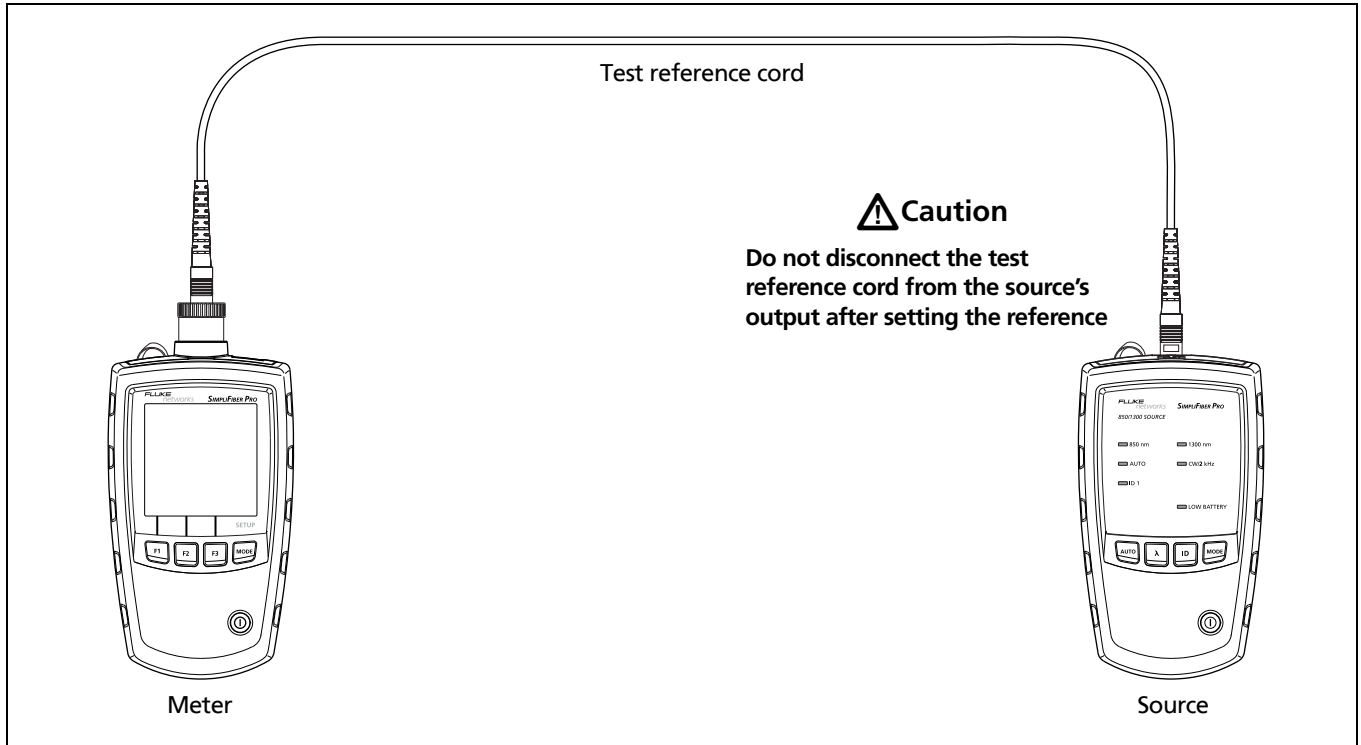

Figure 10. Reference Connections (1 Jumper method)
- 3 Make the connections shown Figure 10.